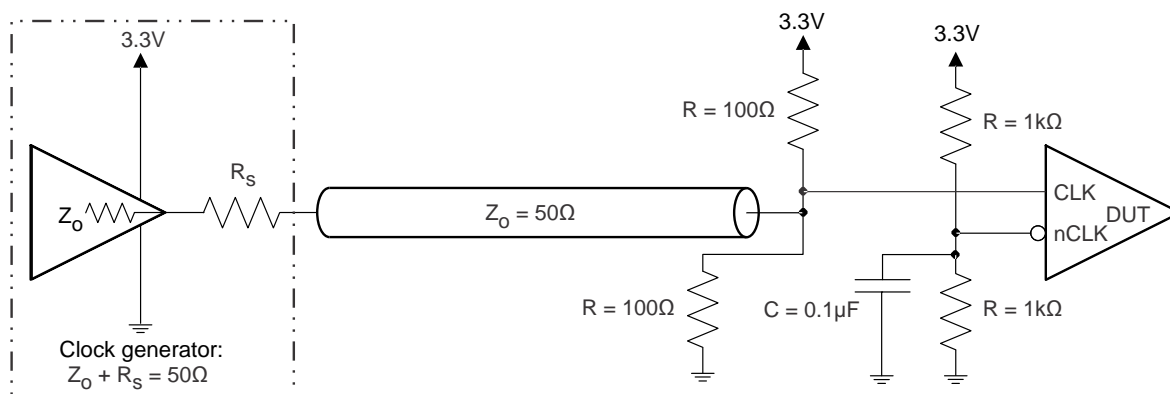
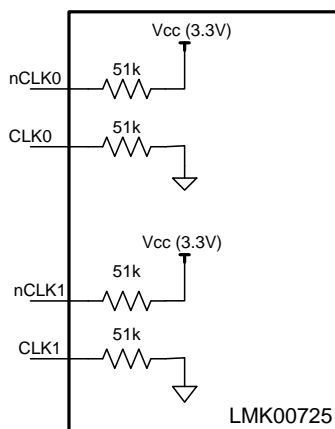

Figure 10. Single-Ended/LVCMOS Input DC Configuration During Device Test
Figure 21. Clock Input Components
- **CLK/nCLK inputs:** See Figure 21 for the internal connections. When using single ended input, take note of the internal pull-up and pull-down to make sure the unused input is properly biased. For single ended input, the Figure 10 arrangement is recommended.